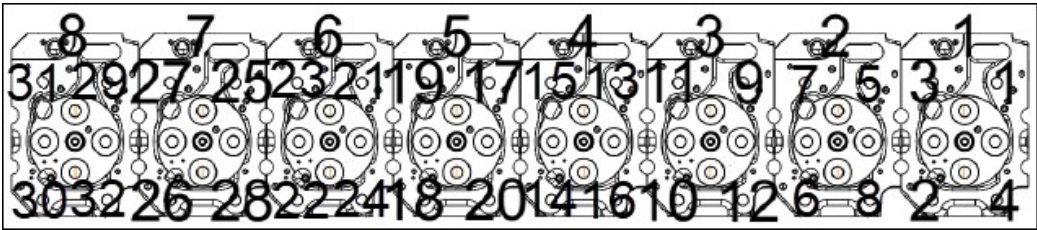

Figure 74. Main Bolt Torquing Order
5. Tighten the main bolts in order (Figure 74) 1 through 32 to a torque of 59 ft/lbs.